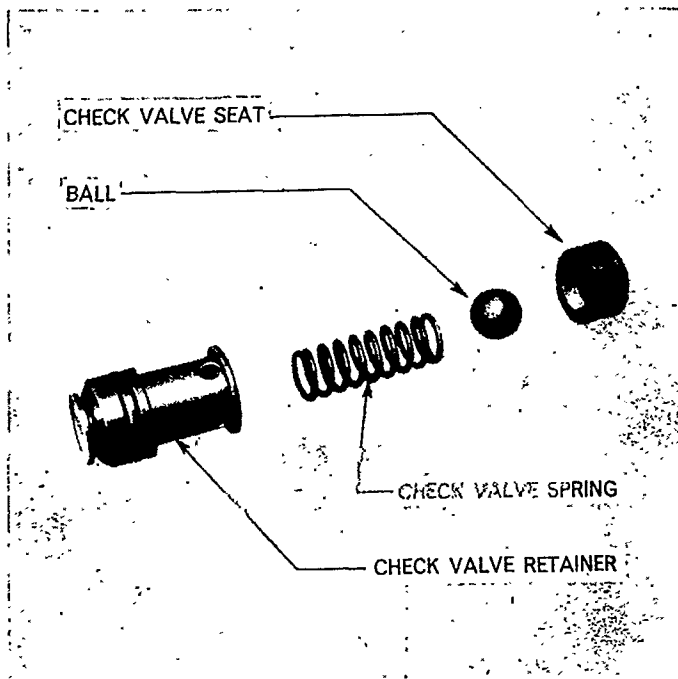

Figure 72
10. Install the check valve ball and spring and install the check valve retainer, which is held in position by the 'O' ring at the end, Figure 72.